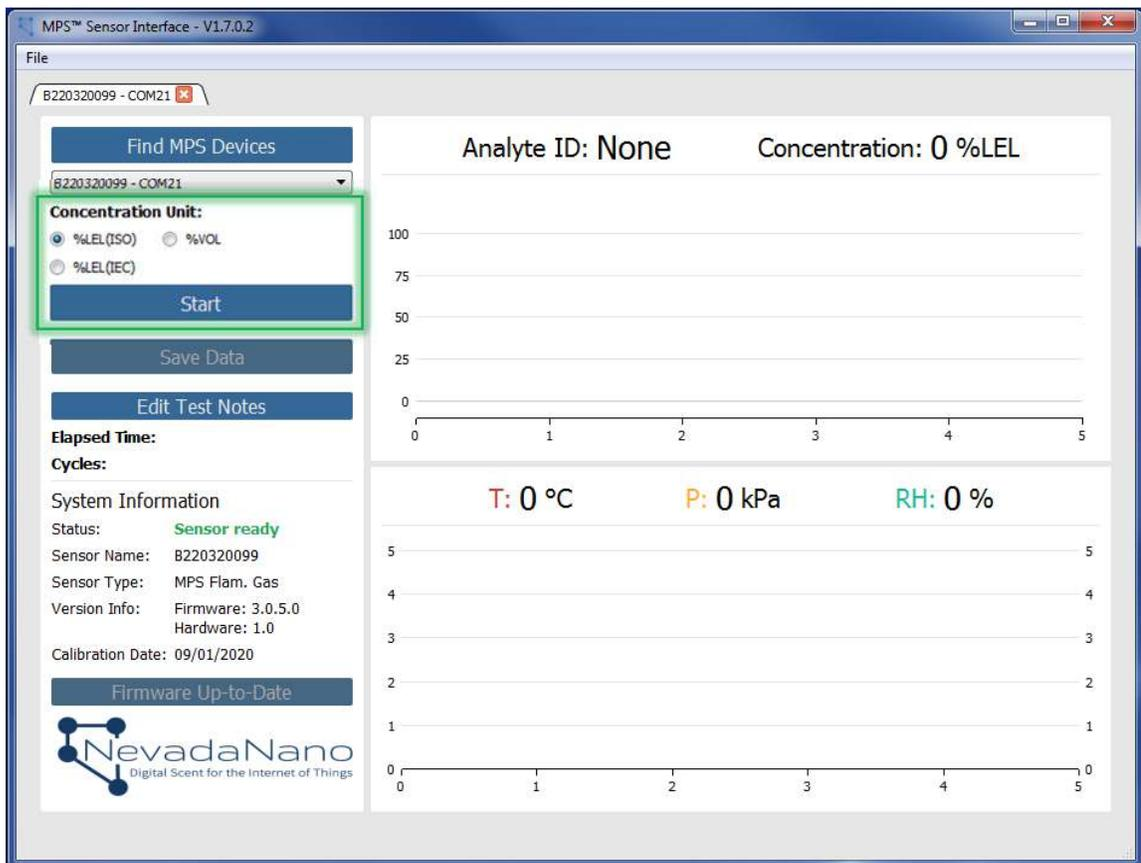

Figure 6 – MPS™ Flammable Gas Sensor Evaluation Software ready for testing. Sensor name is populated and start button is enabled.
1. After performing system setup, the concentration unit selector and start button will be enabled (highlighted in green in Figure 6). **IMPORTANT:** Start the flow of zero-air baseline gas over the MPS Flammable Gas Sensor and wait ~1 minute for baseline gas to replace ambient air before proceeding. Select the desired concentration unit (%LEL(ISO), %LEL(IEC)2, or %VOL) and click Start to begin data acquisition. Once the test starts, the concentration unit cannot be changed until the test finishes.